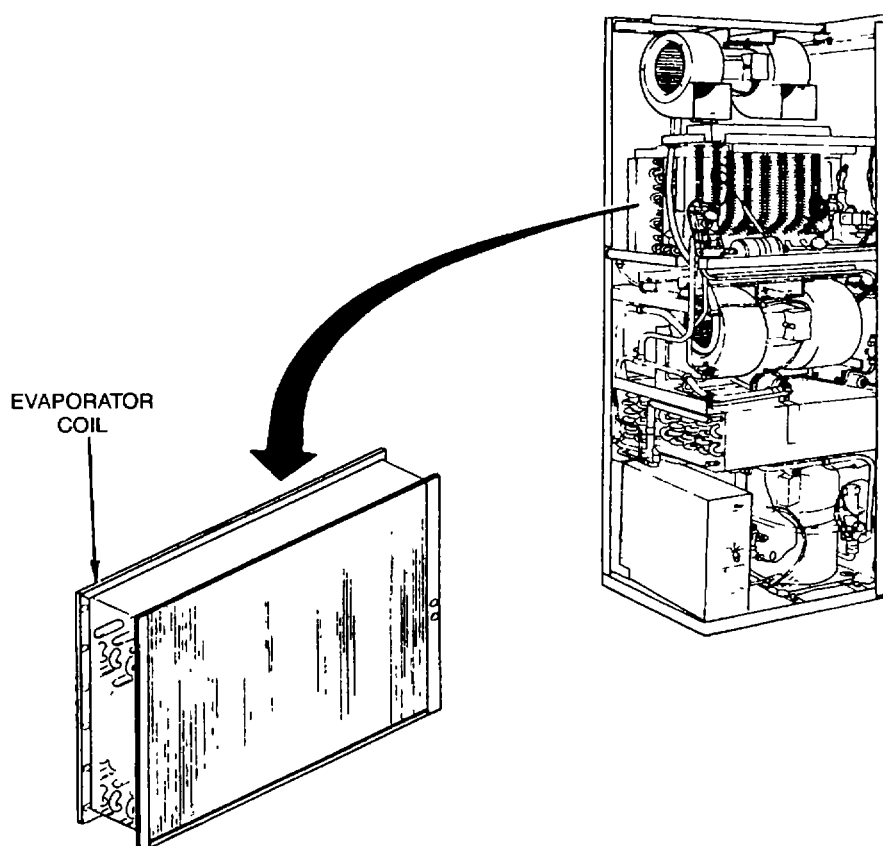

Figure 4-50. Evaporator Coil Cleaning
- (1) Disconnect air conditioner input power at source, and
- (2) Remove return air filter (paragraph 4 26)
- a. Check for accumulated dirt (see fig. 4-50) Clean if dirt is evident.